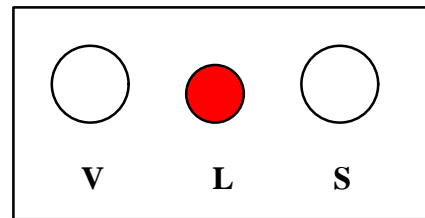

Figure 3: Side Jacks on Communication Packs
1. Attach one LED plug securely to the “L” jack (center) of each communication pack (Figure 3).
4. *After* the sensors have been mounted, attach one sensor plug to the “S” jack of each communication pack (Figure 3).